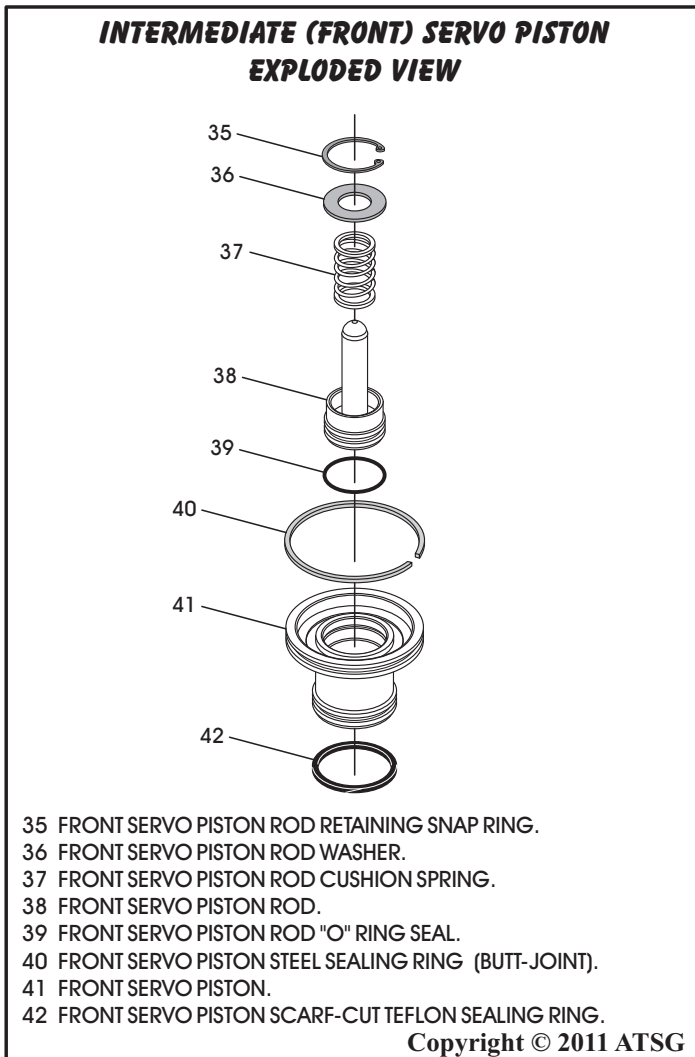

Figure 98
30. Install new "O" ring seal on front servo piston rod, as shown in Figure 98, and lube with small amount of Trans-Jel®.
31. Install new seal rings on the front servo piston, as shown in Figure 98, and lube with a small amount of Trans-Jel®.
32. Install piston rod assembly into servo piston, as shown in Figure 98.
33. Install the cushion spring and washer, as shown in Figure 98.
34. Compress the spring and washer, and install the snap ring, as shown in Figure 98.